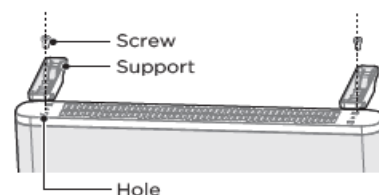

Figure 2
2. According to "Figure 2", remove the supports. Aim the buckle on the support at the hole, push the supporting foot until the hole on support coincides with the screw.